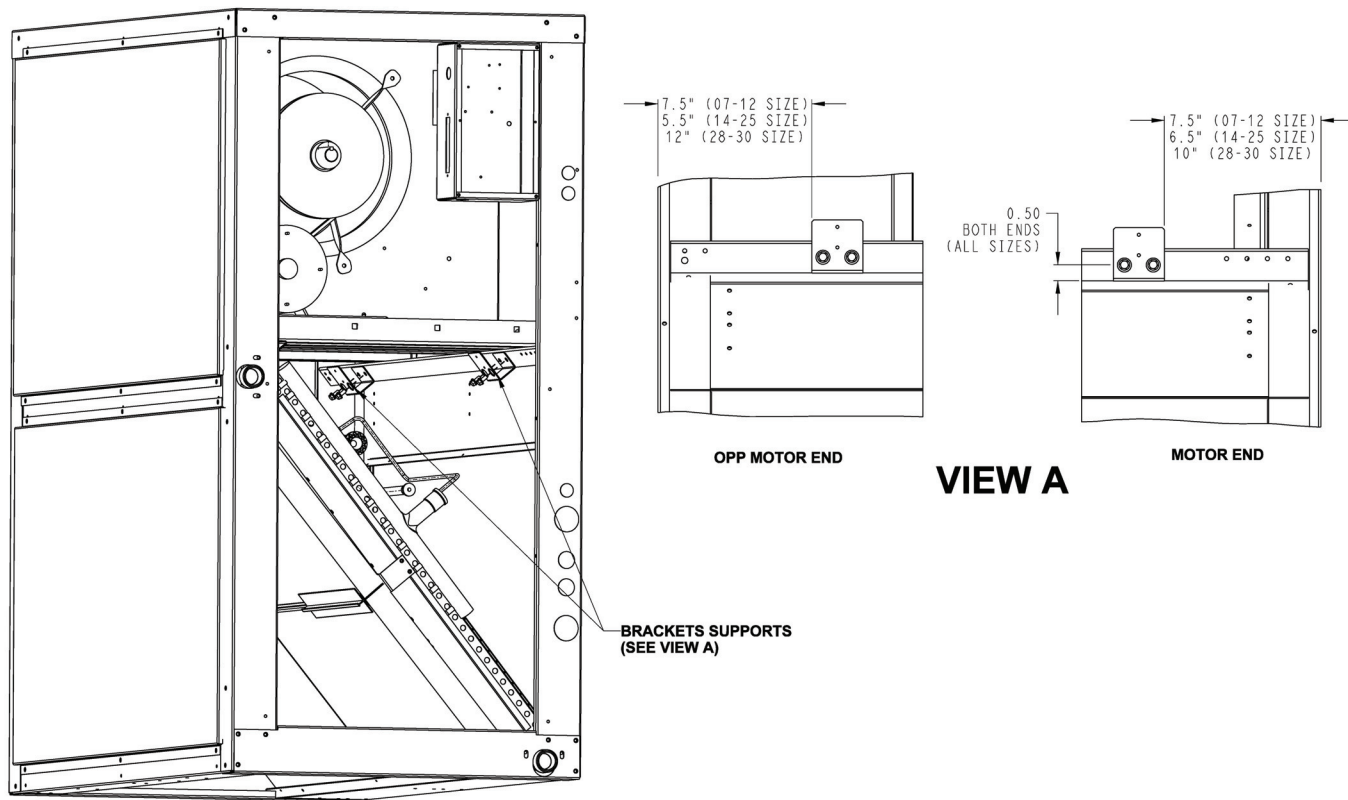

Fig. 3 — Support Brackets
2. Locate support brackets, attach them using provided self tapping 1/4 in. screws (4). See Fig. 3 for correct position on units without holes. See Table 1 and 2 for correct kit.